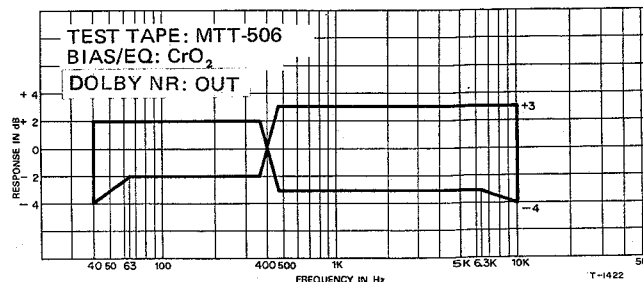

Fig. 6-14 Overall Frequency Response (CrO₂, Reverse)
6. Invert the tape and check also the frequency characteristic in the reverse play mode using the previously recorded portion. Refer to Fig. 6-14 for standard.